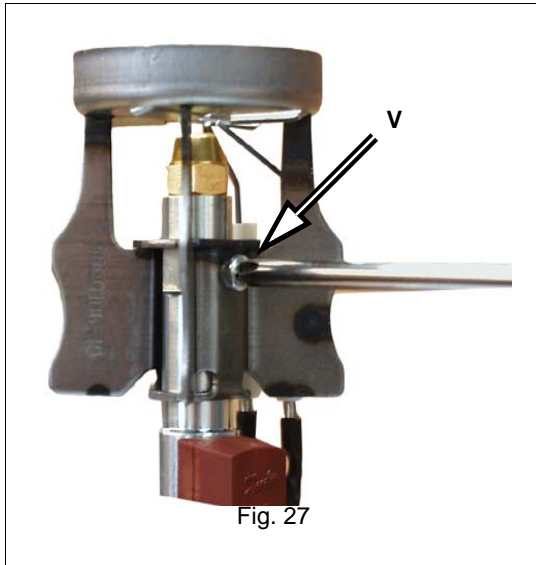
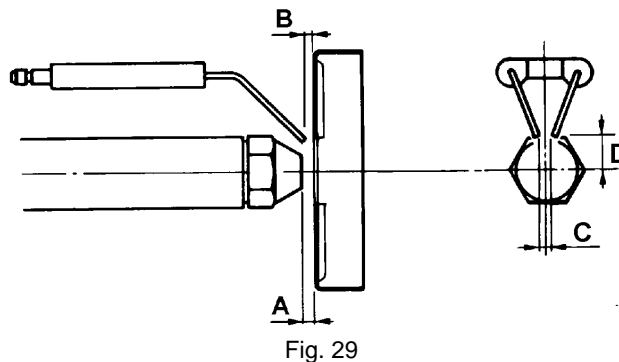

Fig. 27
Fig. 29
- disassemble, check and clean of the combustion head. When re-assembling carefully observe the measures quoted in Fig. 29;
Before disassembling the nozzle and the electrodes, disconnect the cables CV (Fig. 27), measure the positions quoted in Fig. 29 and make a note in the table on Tab. 6.
- 7 Unscrew the V screw that fastens the combustion head and remove the head from the nozzle-holder (Fig. 27 - Fig. 25)
Reassemble the combustion head by respecting the position "A" measured previously, making sure to fasten the V screw (Fig. 27)
**Before disassembling the nozzle, measure the real position "A" (see Fig. 29) and make a note in the table below.**